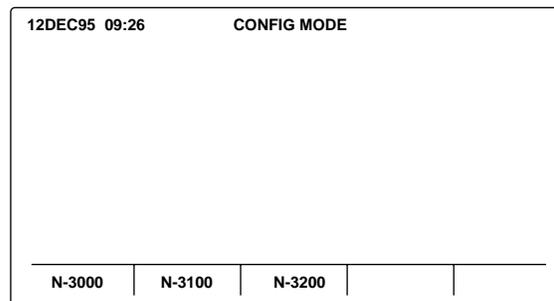

Figure 4-1: Configuration Mode Main Menu
2. You are now in configuration mode. The configuration mode main menu is displayed as illustrated in Figure 4-1. If an N-3000 or N-3100 is not stacked with the N-3200, the corresponding menu item will be blank.